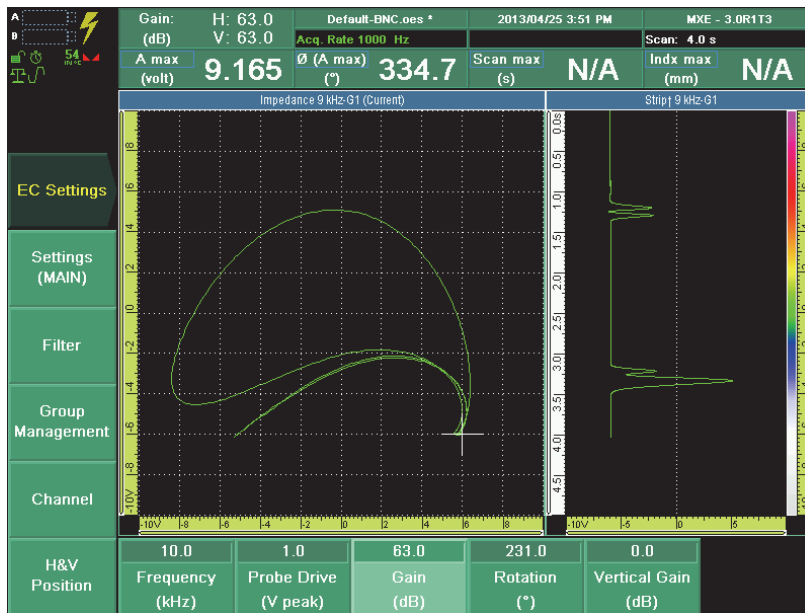

Figure 9-36 The defective fastener's signal using mixing frequency 1
5. Scan the good fastener, and then the defective fastener. In the impedance plane view, the good fastener's signal should be oriented horizontally, and the defective fastener signal should be oriented vertically (see Figure 9-36 on page 182). If not, repeat steps 5.a to 5.e to orient both signals appropriately.